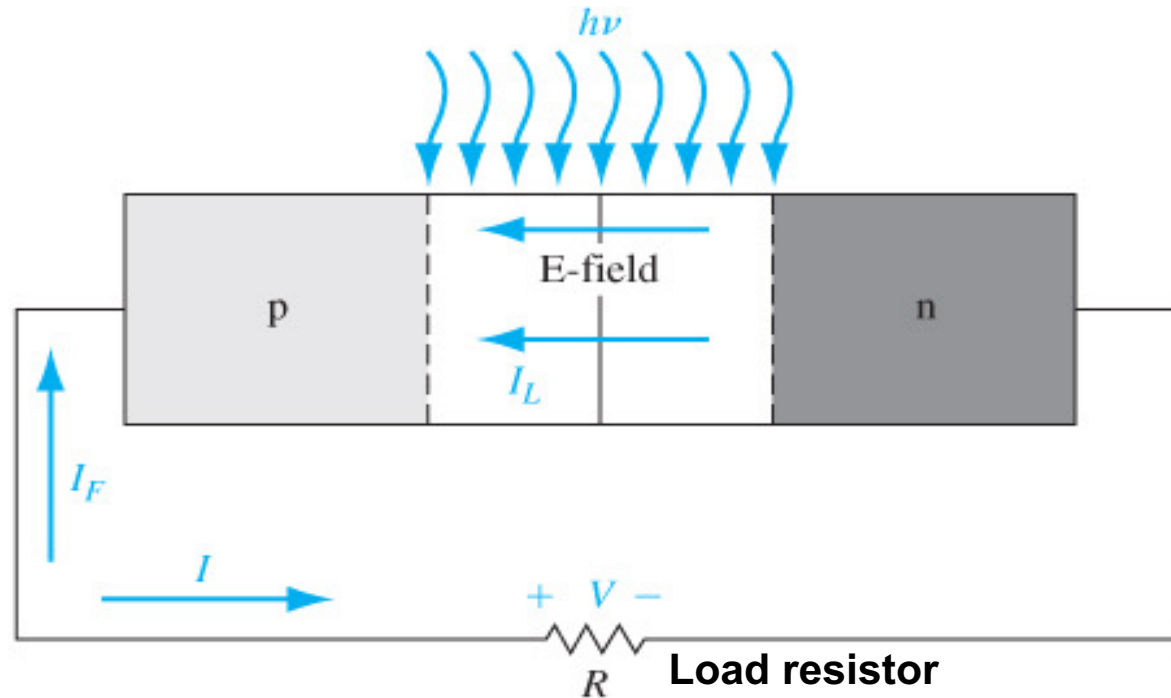

Fig.3.1 A pn junction solar cell with resistive load
We will consider the simple pn junction solar cell, shown in Fig.3.1 with uniform generation of excess carriers.
- A solar cell is a pn junction device with no voltage directly applied across the junction, see Fig.3.1. This is the basis for solar cells.
- Even with zero bias applied, an electric field exists in the space charge region, shown in Fig.3.1.
- The photocurrent I_L produces a voltage drop (V) across the resistive load. This voltage drop is in the forward-bias direction. Positive potential on the p-type side, and negative potential on the n-type side.
- This forward-bias voltage then produces a forward-biased current I_F as shown in Fig.3.1.
Compared to Fig. 3.1, the load resistor in a solar cell is replaced by a reverse-biased voltage source in a photodiode.